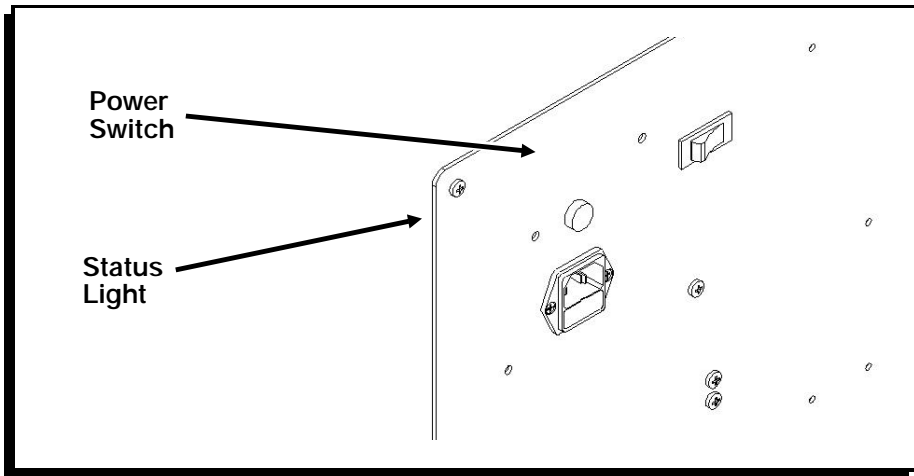

Figure 40
1. Turn the Station's power supply off and unplug the power cord. (Figure 40.)